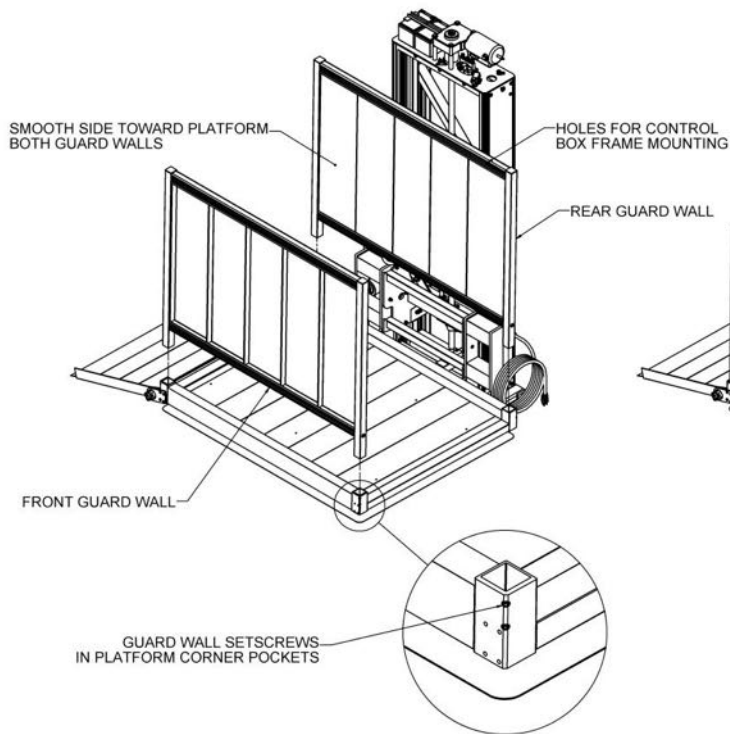

FIG. 4.7
11. Install the guard walls with the smooth side toward inside of the platform as shown (FIG. 4.7).